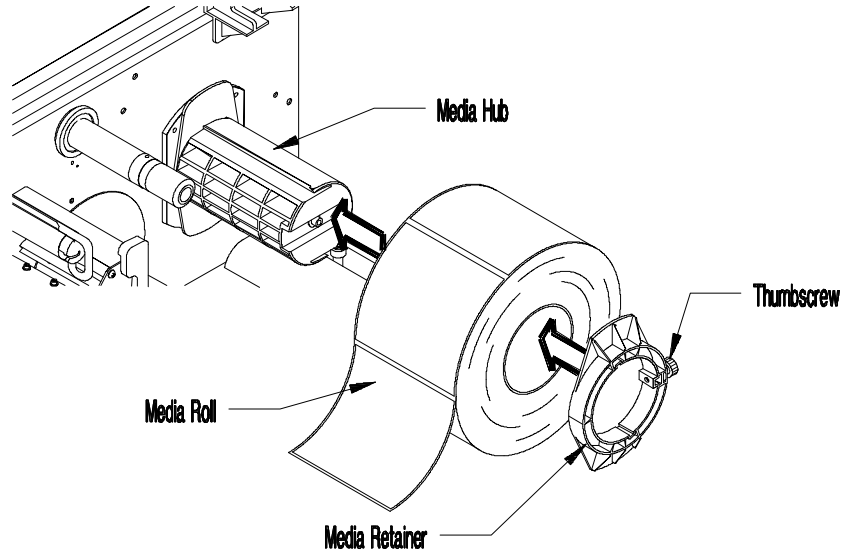

Figure 2-5a Media Installation (3" core)
5. Place the media core adapters on the Media Hub Assembly if using 3" cores, (see Figure 2-5a).